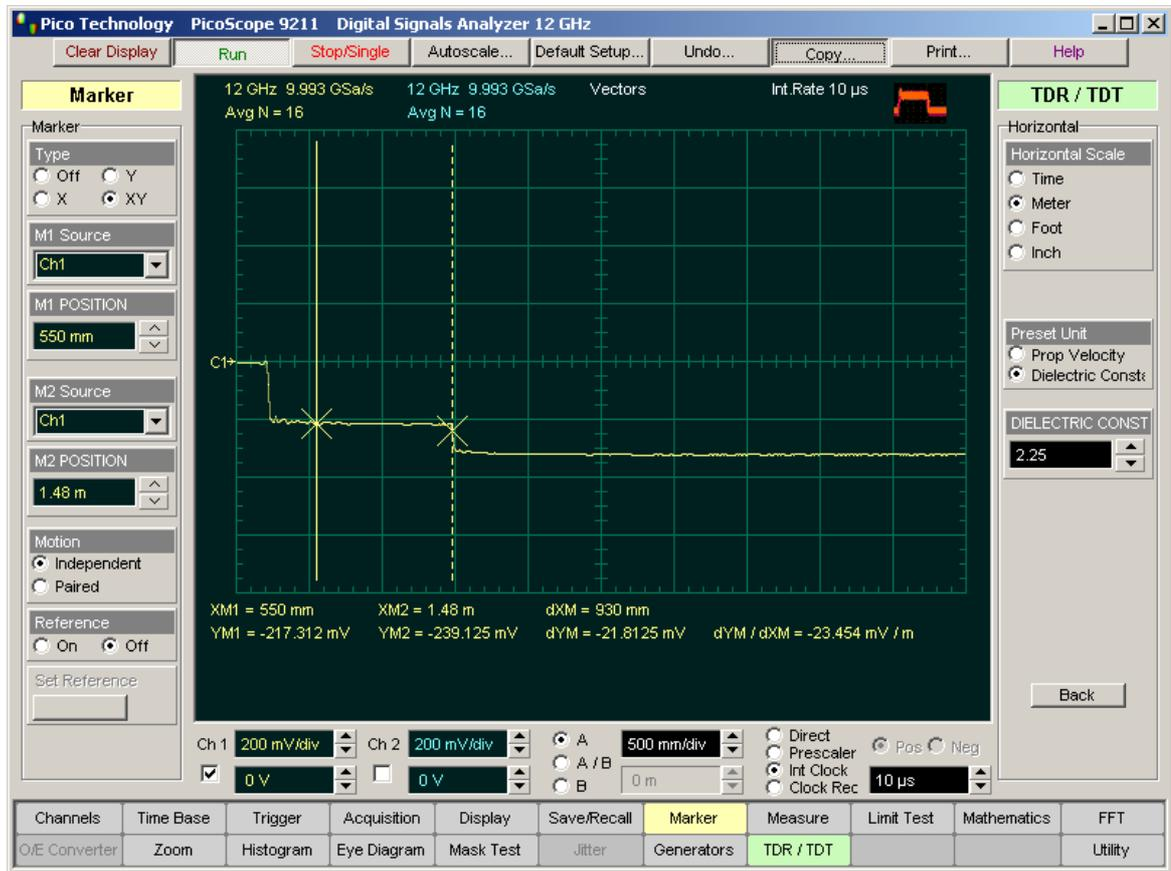

Figure 2
14. Place marker M2 on the reflection from the open end of the cable. The dXM value shows the length of the cable equal to 930 mm. See Figure 2.
2. Get a picture as shown in Figure 2 in "Equipment connections for TDR measurements".